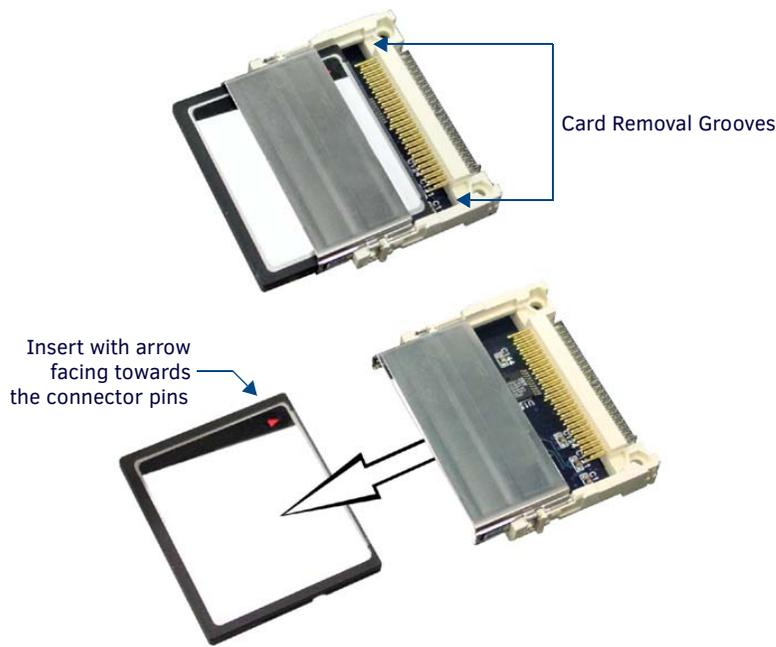

**FIG. 5** Location of the Compact Flash (NI-4100 shown)
2. Remove the chassis housing screws from both the sides and top of the Controller, as shown in FIG. 5 by using a grounded screwdriver turning in a counter-clockwise rotation.
3. Carefully pull-up and remove the housing up and away from the Controller to expose the internal circuit board (FIG. 5).
2. Locate the 32 MB Compact Flash card on the main board. For more detailed information on component locations, refer to FIG. 5.
- Insert and secure the chassis housing screws back into their respective locations, as shown in FIG. 5 by using a grounded screwdriver.